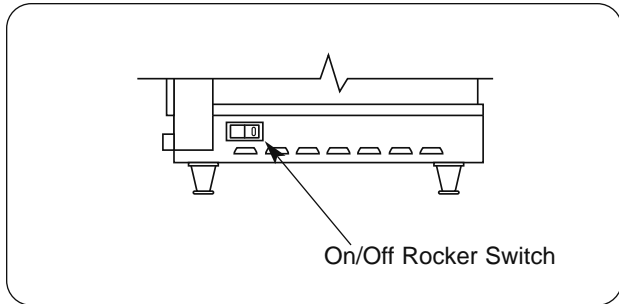

Figure 9. On/Off Rocker Switch
- Place the On/Off rocker switch, located on the left side of the unit, in the ON position. (See Figure 9.) The halogen lights will glow at this time and the electronic temperature controller will display "Stby." When the programmed temperature setpoints have been reached, the control panel will display "rEdy" and the unit is ready for use.